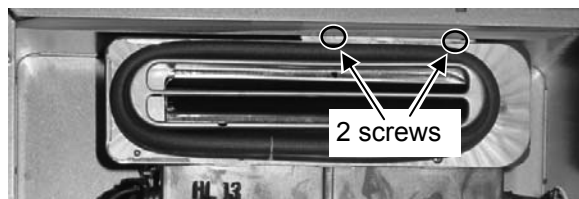

Figure 42
20. Remove 2 screws above the exhaust. Pull assembly from the unit. (Figure 42)